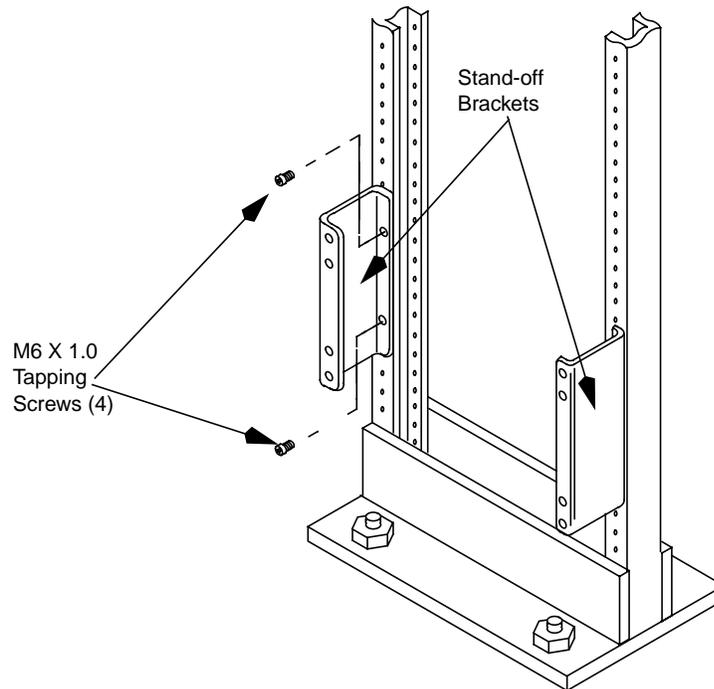

Figure 4-10: Attaching the Brackets to the Rails for a High Power Station
- c. Install the brackets on the rails using four M6x1.0 tapping screws (see Figure 4-10).